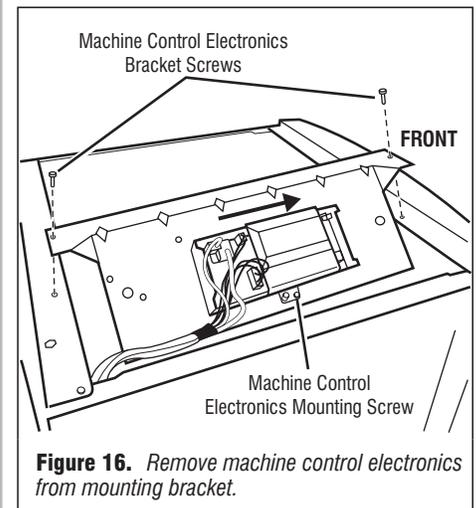
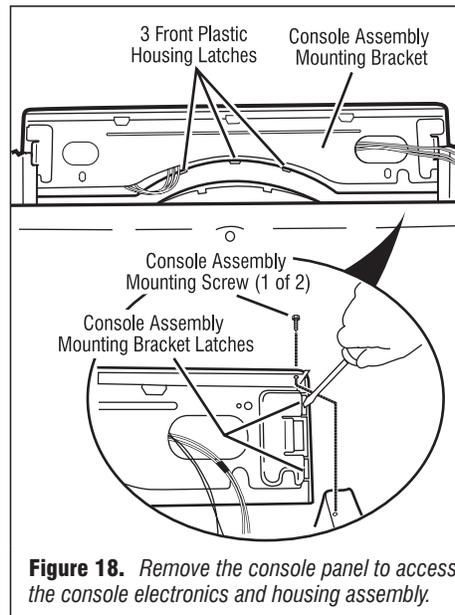

Figure 16. Remove machine control electronics from mounting bracket.
Figure 18. Remove the console panel to access the console electronics and housing assembly.
1. Perform preceding steps 1 and 2, then remove the two screws that hold the machine control electronics bracket in place. See figure 16.
2. Slide the bracket over the top of the drum to access the machine control electronics connectors and mounting screw. See figure 16.
4. Remove the screw holding the machine control electronics assembly to the mounting bracket. See figure 16.
2. Remove the screw that fastens the assembly to the machine control mounting bracket (figure 16, page 9), and the two screws that fasten the console assembly to the dryer (figure 18).
3. Slide the console up and off of the dryer, gently unlatching the front three plastic housing latches from the front door trim section. See figures 18 and 19.
4. The console mounting bracket is fastened to the console front panel with two latches at both sides of the console assembly. Unlatch the bracket gently with a screwdriver while pulling the mounting bracket assembly out. See figure 18.